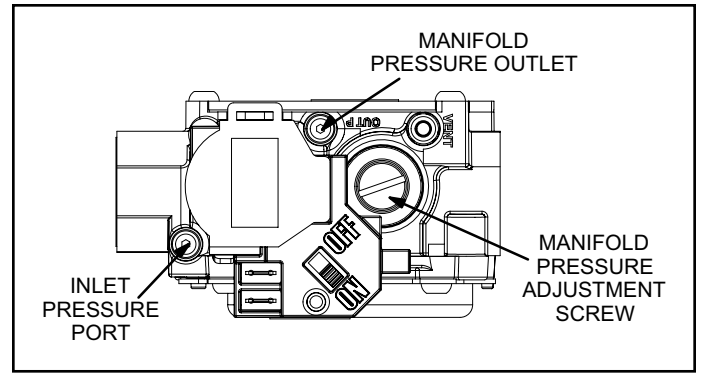

Figure 6. Gas Valve
1. Slide the gas valve switch to the "ON" position (see Figure 6).
1. Slide the gas valve switch to the "OFF" position (see Figure 6).
The manifold pressure can be measured by shutting off the gas, removing the pipe plug in the downstream side of the gas valve, and connecting a water manometer or gauge. **Under no circumstances should the final manifold pressure vary more than 0.3" w.c. from the above specified pressures.** To adjust the regulator, turn the adjusting screw on the regulator clockwise to increase pressure and input or counterclockwise to decrease pressure and input. See Figure 6 to assist in locating the regulator on the gas valve.